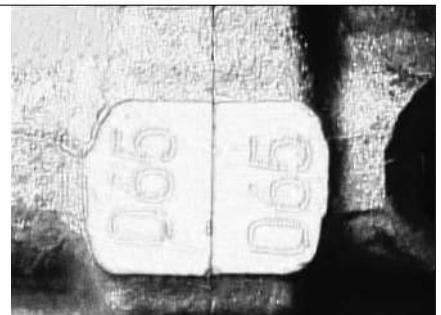

Fig 5-11 Connecting Rod Bearing Cover Installation
1.13 Before installing connecting rod bearing cover, coat some oil on crankshaft necks. Not mix connecting rod covers, keep group number consistently. Tighten (Tightening) torque of connecting rod bolts is 135 Nm (see Fig 5-11).